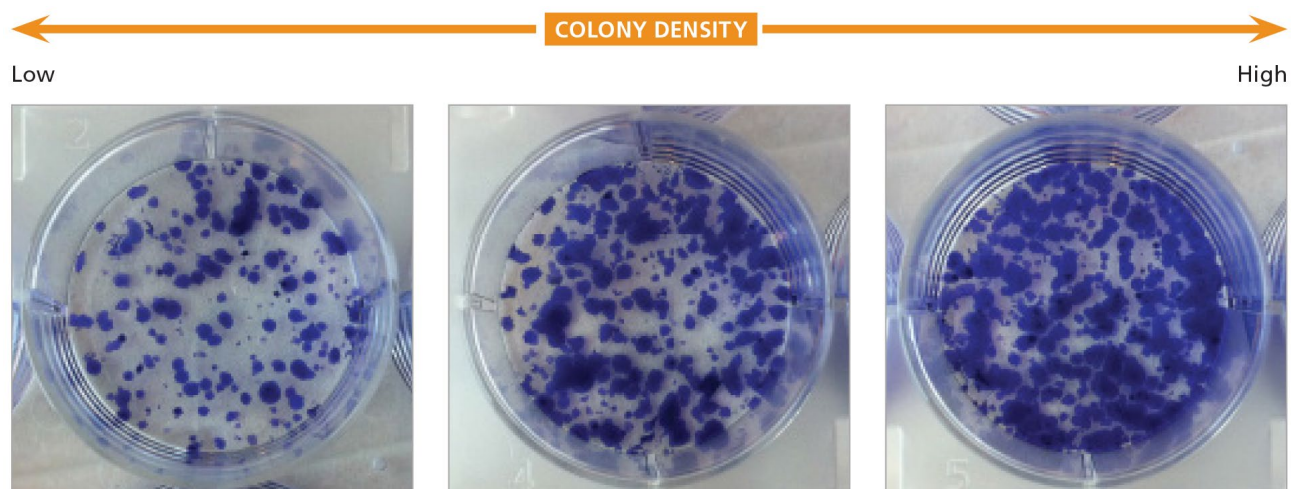

Figure 6. Example Colony Densities for hESC or hiPSC Cultures
**For representative images, see Figure 6.
The number of cell aggregates plated at the time of passaging is correlated to the colony density observed at the next time of passaging. By altering the split ratios at the time of plating you can increase or decrease the colony density as desired. For example, a lower split ratio at the time of plating (i.e. plating more cell aggregates) will result in a higher colony density at the next passaging time. Typical split ratios are 1 in 10 to 1 in 50; however, this can vary depending on the passaging schedule, the cell line used, and the individual operator. Refer to Figure 6 for a recommended range of colony densities that should be observed at the time of passage. Some cell lines may show increased spontaneous differentiation when cultured at higher densities; if increased differentiation is observed, the colony density may be decreased in the next passage by plating fewer cell aggregates. Counting cell aggregates is an alternate way to determine and adjust plating densities (Appendix 1).